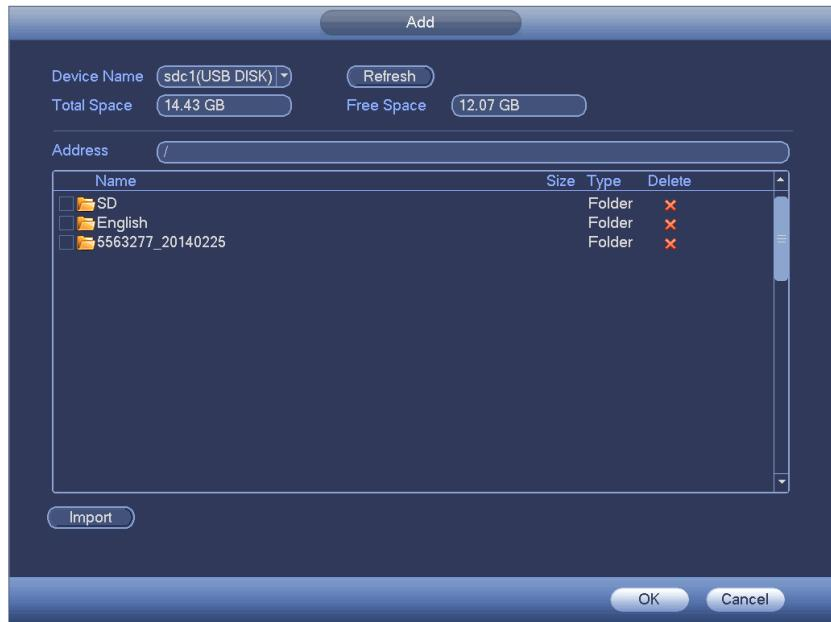

Figure 4-215
Step 2 Click Add button, it is to add audio file and import the audio file via the USB device. See Figure 4-215.